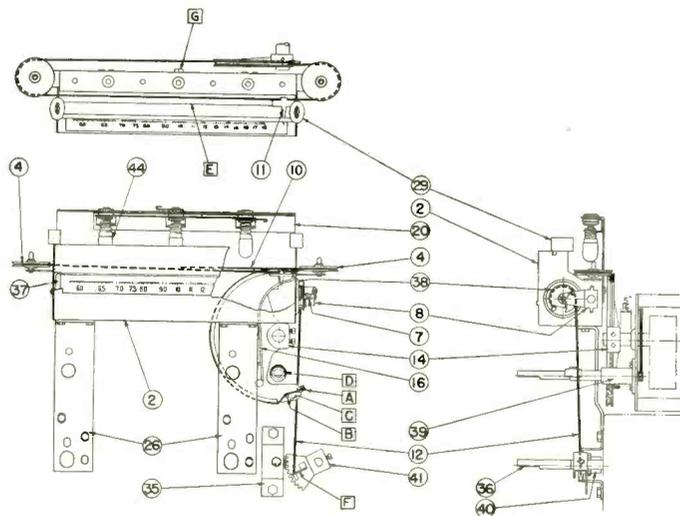

Fig. 1. General Electric focused tone dial.
To Replace Drive Cable: Remove the drive cable to be replaced. Referring to Fig. 1, rotate drive wheel (14) counter-clockwise until condenser plates are open. Place the end of the cable having an eyelet in slot (A). Thread cable as shown, making sure cable passes over pin (B), and runs along the correct grooves, the looped end hooking over spring (16). Check the position of the drive wheel on the condenser shaft, making sure that the cable coming off the right-hand idler pulley lines up with the grooves in the drive pulley. Also, as
To Adjust Pointer for Scale Calibration: Three positions of the dial pointer cable are provided to adjust the pointer up or down scale. The position shown on Fig. 1, with the cable over pin (B), is the medium position. By changing the cable to the position between pins (B) and (C) the pointer may be moved down scale. The cable position below pin (C) moves the pointer up scale from the medium position.